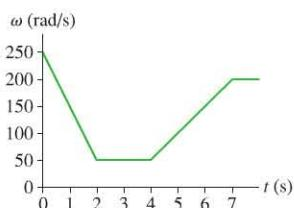

FIGURE P7.45
45. | The graph in Figure P7.45 shows the angular velocity of the crankshaft in a car. Draw a graph of the angular acceleration versus time. Include appropriate numerical scales on both axes.